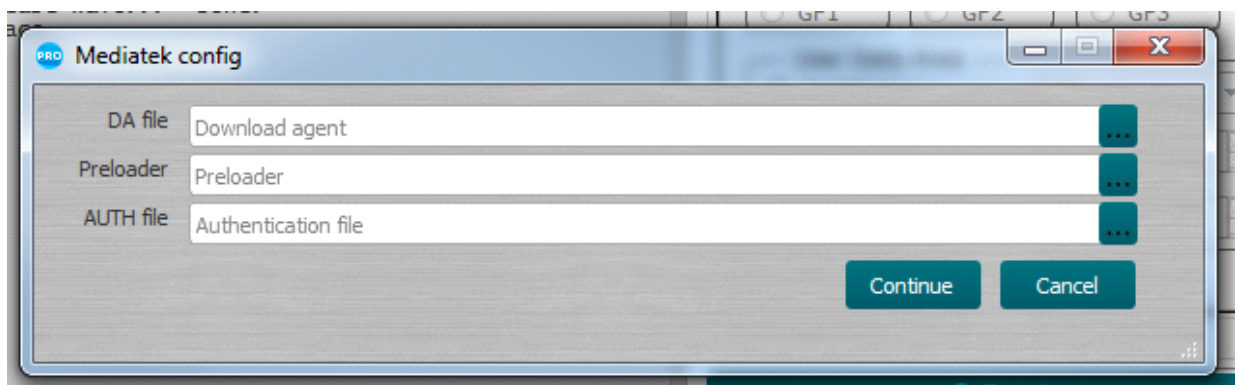

Fig. 25
The difference between these two options is that in "**MTK Custom**" to initialize the device you need to select 3 files: "**Download Agent (DA)**", "**Preloader**" and "**Authentication File (AUTH file)**" (Fig. 25).